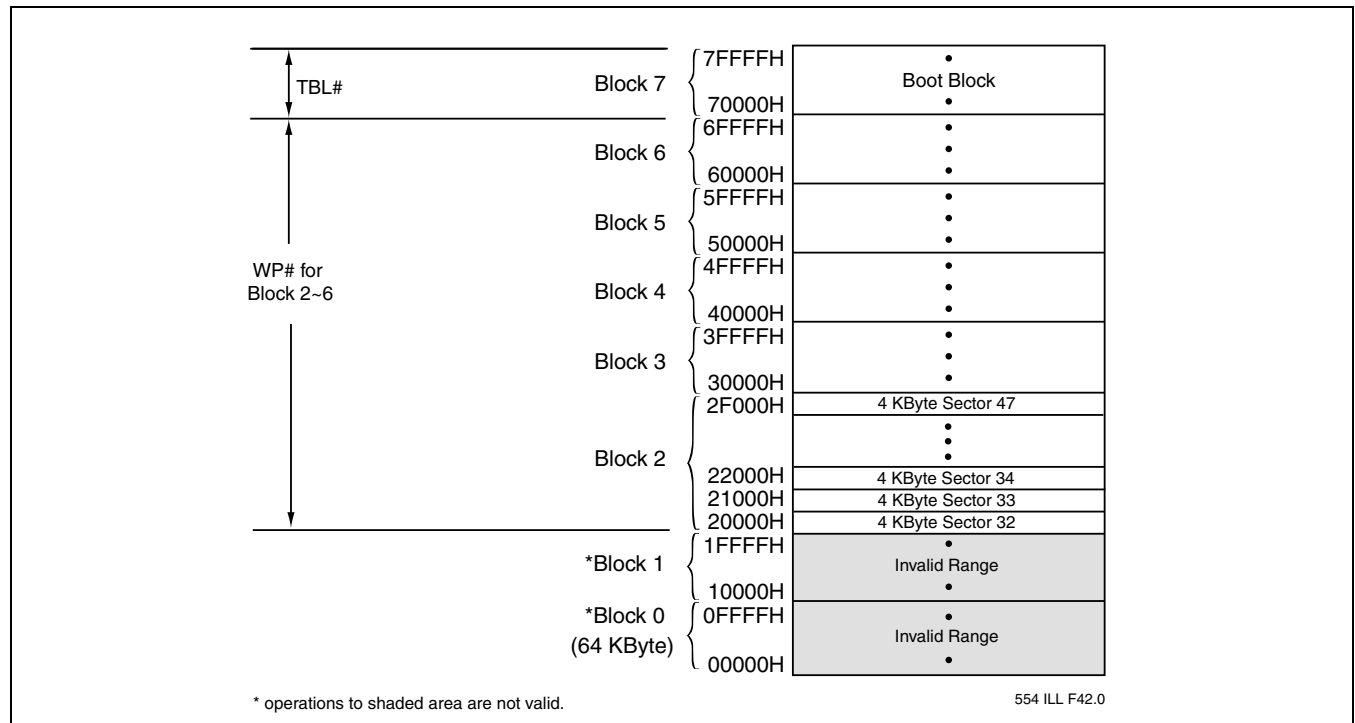

FIGURE 3: DEVICE MEMORY MAP FOR SST49LF030A
The SST49LF0x0A flash memory devices can operate in two distinct interface modes: the LPC mode and the Parallel Programming (PP) mode. The mode pin is used to set the interface mode selection. If the mode pin is set to logic High, the device is in PP mode. If the mode pin is set Low, the device is in the LPC mode. The mode selection pin must be configured prior to device operation. The mode pin is internally pulled down if the pin is left unconnected. In LPC mode, the device is configured to its host using standard LPC interface protocol. Communication between Host and the SST49LF0x0A occurs via the 4-bit I/O communication signals, LAD [3:0] and LFRAME#. In PP mode, the device is programmed via an 11-bit address and an 8-bit data I/O parallel signals. The address inputs are multiplexed in row and column selected by control signal R/C# pin. The row addresses are mapped to the lower internal addresses (A_{10-0}), and the column addresses are mapped to the higher internal addresses (A_{MS-11}). See Figures 3 through 5, the Device Memory Maps, for address assignments.